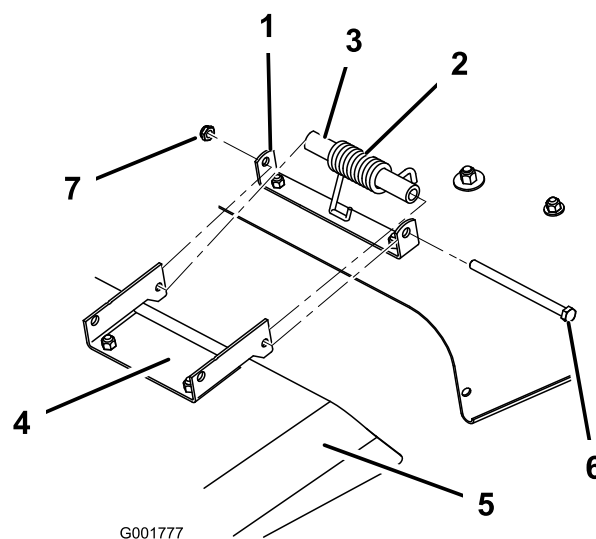

Figure 49
1. Remove the locknut, bolt, and spring holding the deflector to the mower brackets (Figure 49). Remove the damaged or worn grass deflector.
2. Place the springs into the brackets on the mower with the hooked ends over the raised back (Figure 49).
3. Align the grass deflector with the holes in the brackets and the spring straight ends in the space under the hinge and above the deflector (Figure 49).